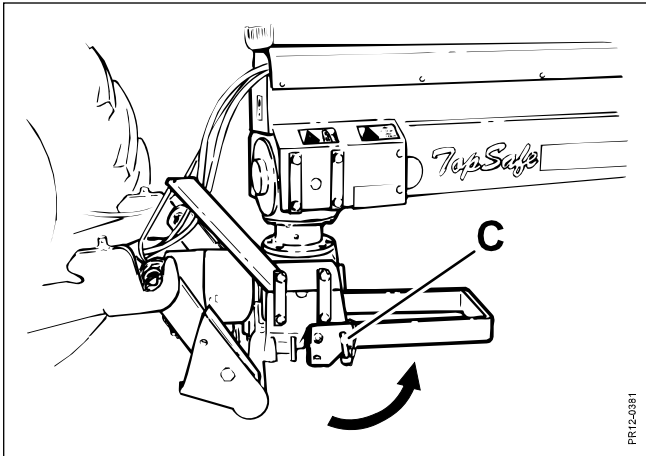

Fig. 2-7
- Fig. 2-7** The jack under the swivel gearbox is swivelled to the rear and locked with pin **C** and spring pin.